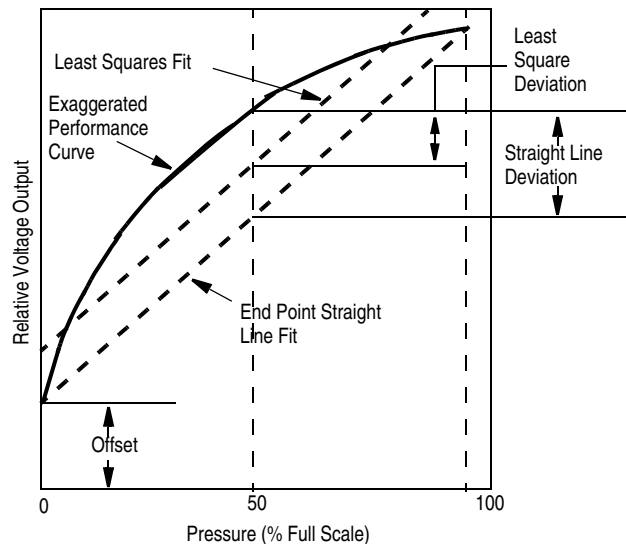

Figure 4. Linearity Specification Comparison
Linearity refers to how well a transducer's output follows the equation:  $V_{OUT} = V_{OFF} + \text{sensitivity} \times P$  over the operating pressure range. There are two basic methods for calculating nonlinearity: (1) end point straight line fit (see Figure 4) or (2) a least squares best line fit. While a least squares fit gives the "best case" linearity error (lower numerical value), the calculations required are burdensome.